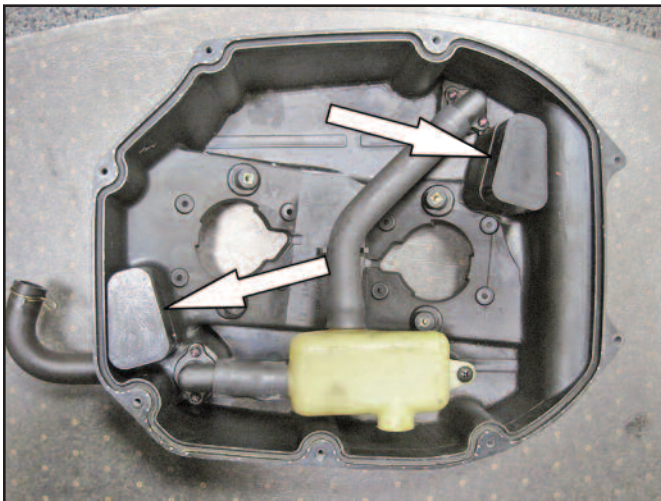

Fig. 1
- 6) Position the provided blanking caps. (Fig. 1)